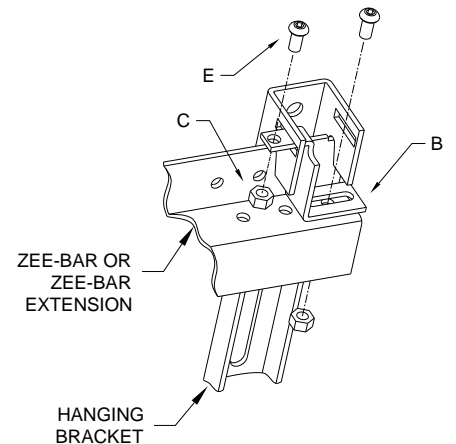

Figure 7
12. Attach the Hold-Downs. See Figure 7.